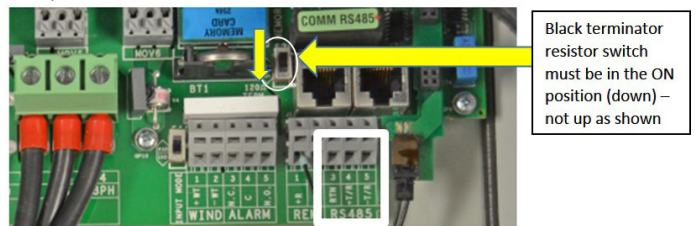
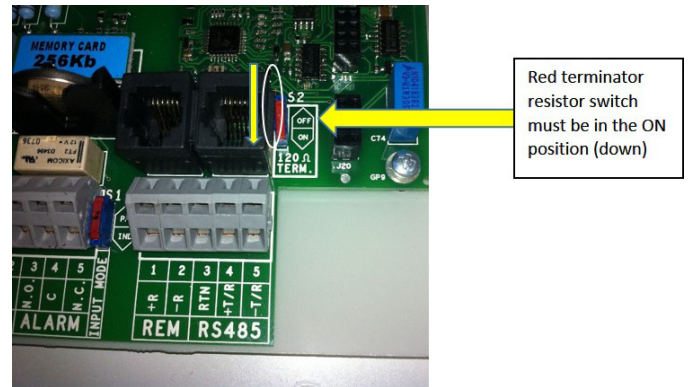

Figure 6 RS-485 connection locations inside the inverter box
Figure 7 RS-485 connection locations inside the inverter box
- Locate the RS-485 terminal block to the right of the grid voltage terminal block. It is marked “RS485” (white square box, Figure 6).
- Ensure the terminator resistor is in the ON position (show below in the white ovals of Figure 6 and Figure 7). The switch could be in various locations or colors, depending upon model.